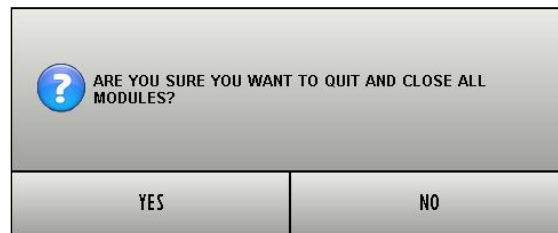

Fig 50
3) Window without timer with double choice (YES or NO - Fig 50).
The window shown in Fig 50, as the previous one, requires a choice between the options **Yes** and **No** in relation to a procedure that has just been performed. Click the **Yes** button to perform the action, click the **No** button to quit without performing it. This type of window has no timer and remains on screen until a choice is made.